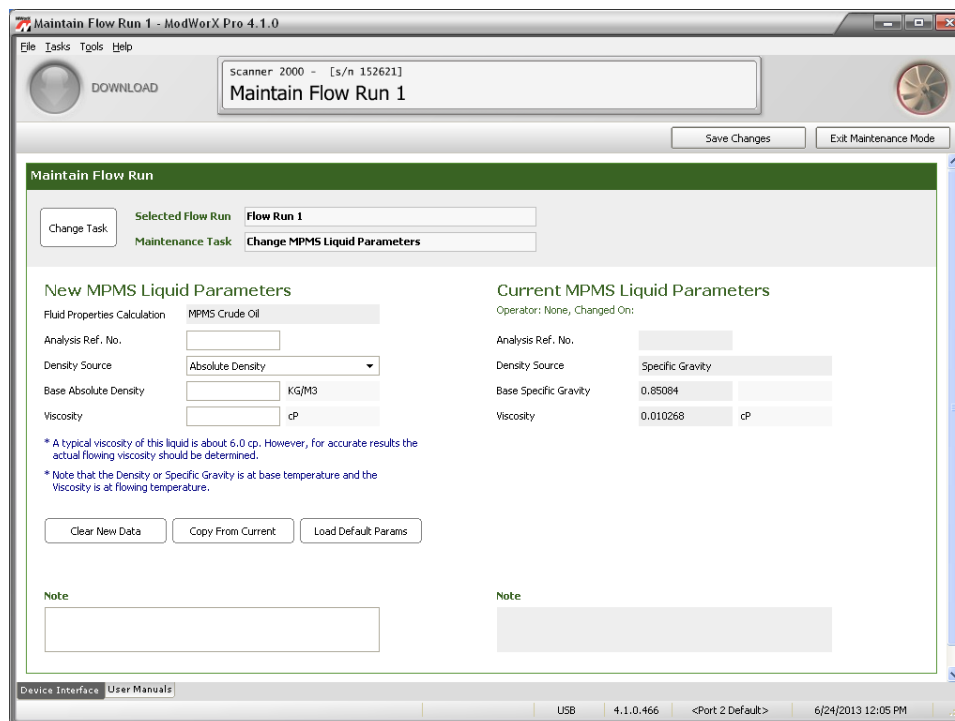

Figure 9.13
- b. Click **OK** to save the settings and return to the Maintain Flow Run screen (Figure 9.13, page 129).